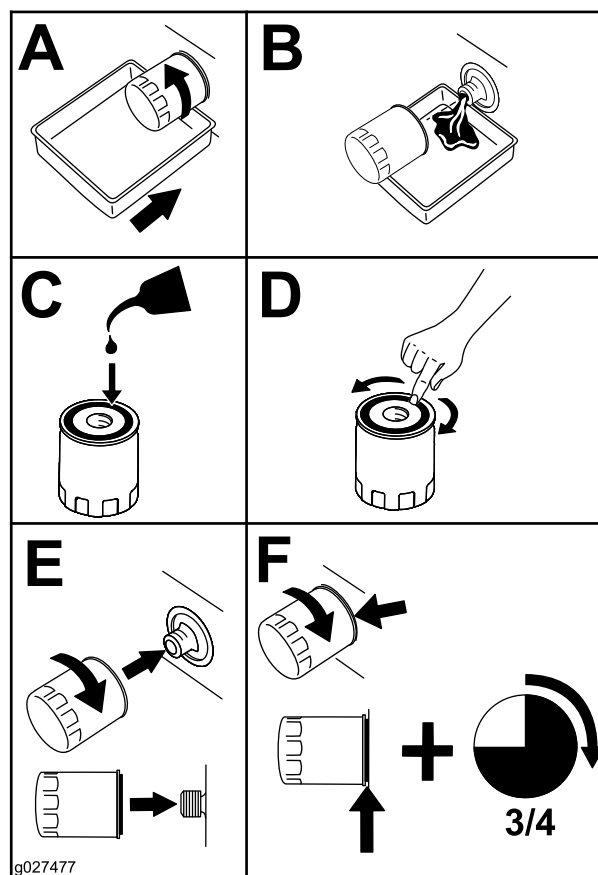

Figure 57
- Change the engine-oil filter (Figure 57).